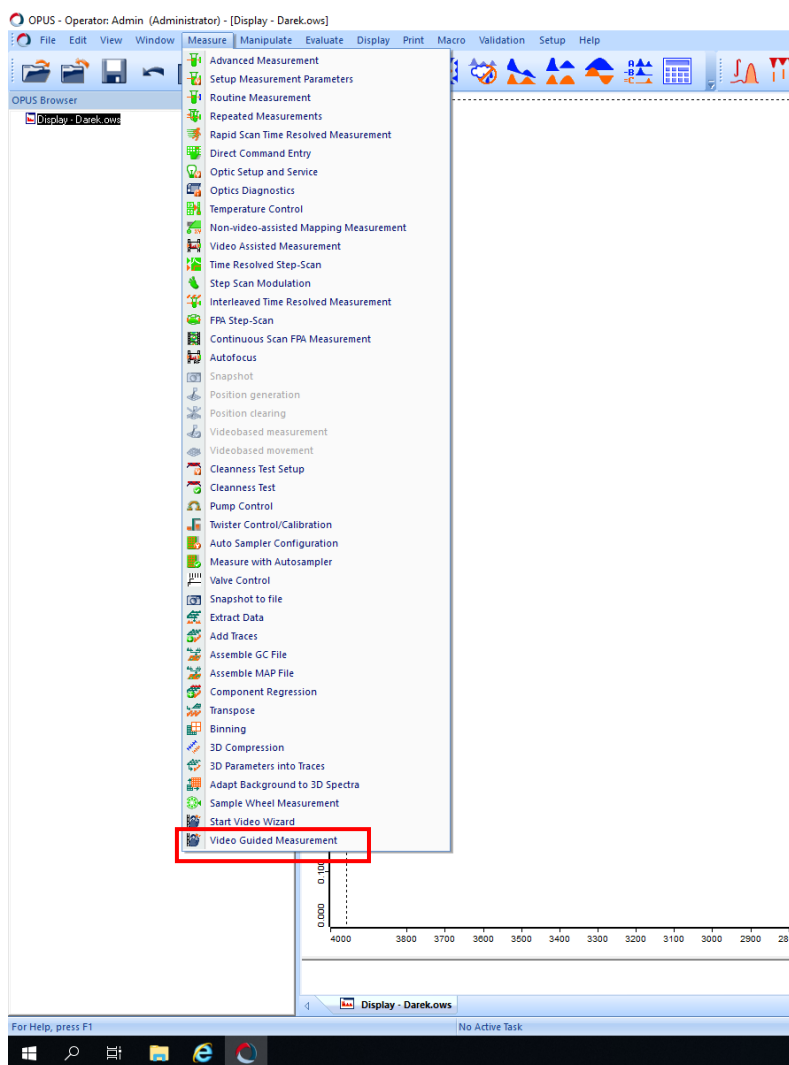
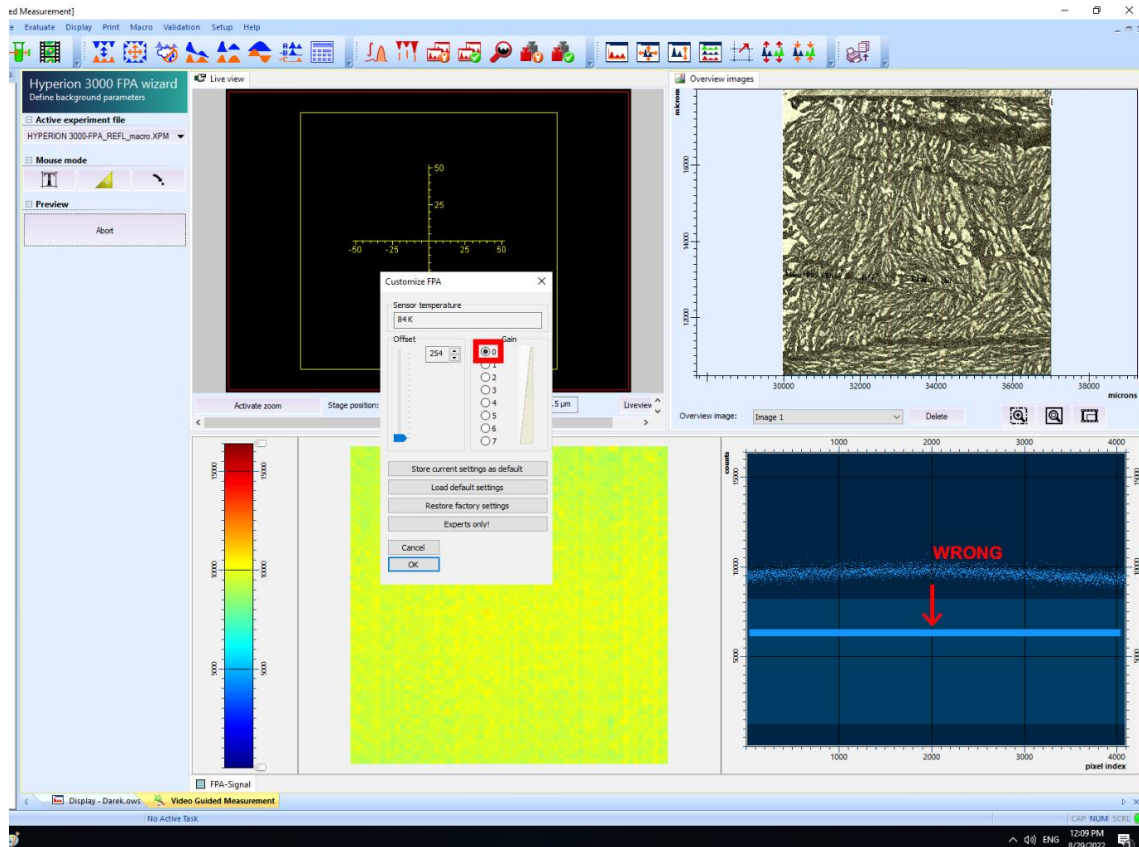

Fig. 4. The “Video Guided Measurement” option
Fig. 7. The „Live spectrum” option – parameters of FPA
1. The measurement starts with choosing the interesting area of the sample. In the microscope software OPUS choose “Measure”, then “Video Guided Measurement” (Fig. 4),
After adjusting the height of the table, return to the background-position. The lower right window shows the pixel count. Set the FPA parameters so that the "pixel line" is at the top of the allowed range (brighter, wide bar). After right-clicking in the lower right screen area, the option to select FPA parameters ("Customize FPA") appears. Set "Gain" to zero, select "Offset", and after entering "Expert only" the exposure time (Exp. Time) - Fig. 7.
The steps of the measurements with the use of the MCT detector are analogous to the FPA measurements, except for the optimization of the signal detection parameters (Figs. 7 and 15). In the microscope software OPUS choose “Measure”, then “Video Guided Measurement” (Fig. 4), and “Hyperion 3000-MCT”.